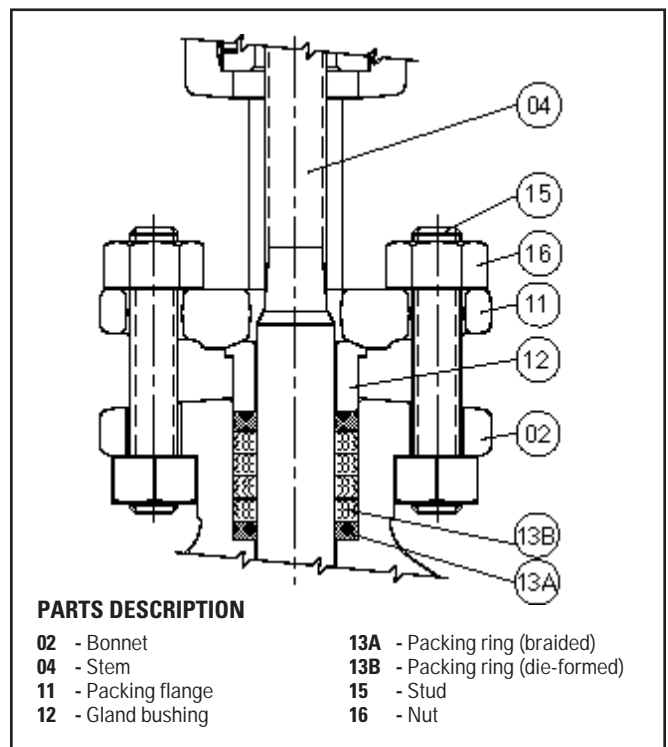

Figure 5.1H Packings installed
- a) Insert one braided packing ring, followed by intermediate graphite packings and one last braided packing ring refer to *Figure 5.1H*. Lower the gland bushing and check for bushing positive engagement.